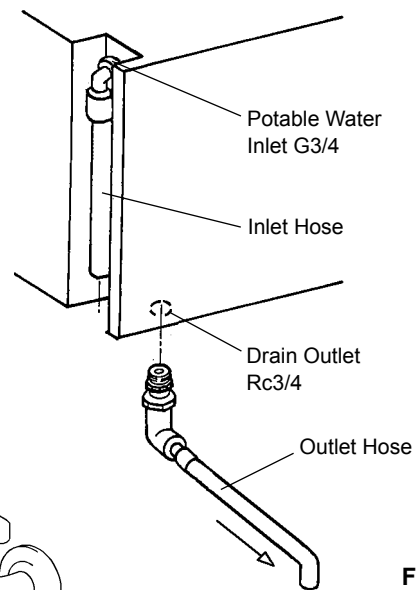

Fig. 4
- 1) Attach the angled end of white flexible inlet hose (accessory) onto the G3/4 fitting on the rear of the icemaker as indicated (Fig. 4), ensuring rubber sealing washer is correctly positioned. Hand tighten sufficiently to provide leak free joint.
- 4) Tighten the 3/4-3/4 nipple and elbow onto the Rc3/4 fitting on the bottom of the icemaker as indicated (Fig. 4). P.T.F.E. tape and/or a suitable sealing compound should be used to obtain a leak free joint.